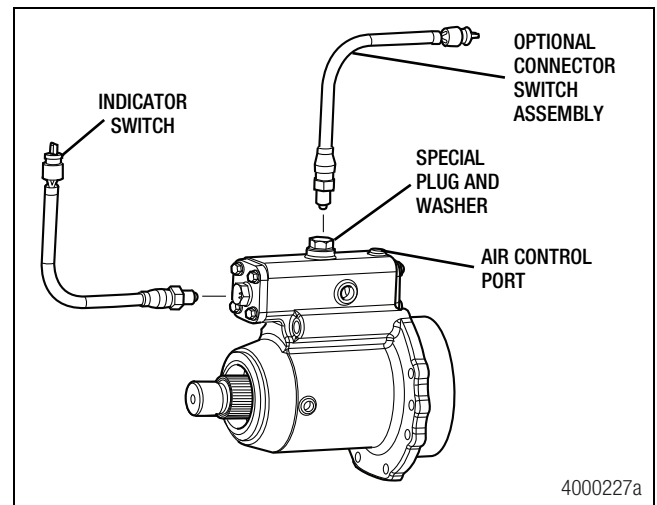

Figure 8.13
9. Install the indicator switch. Tighten the switch to 25-30 lb-ft (34-40 Nm). Figure 8.13.
Install the special plug and washer used to cap the access hole. Tighten the plug to 25-30 lb-ft (34-40 Nm). Figure 8.13.